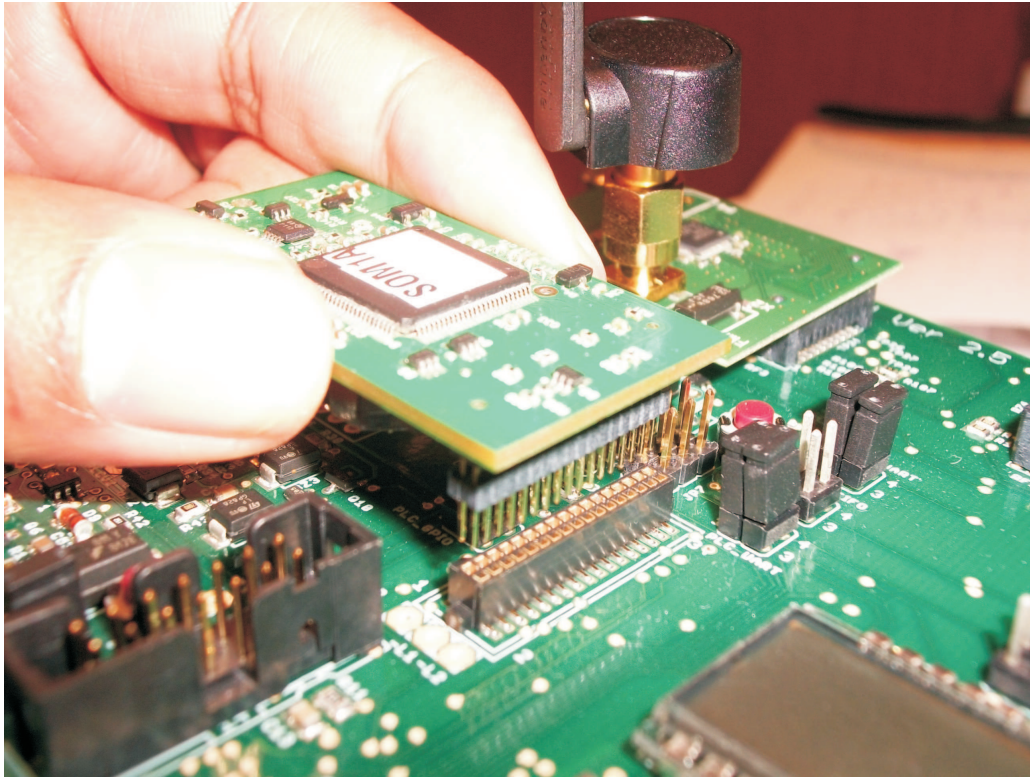
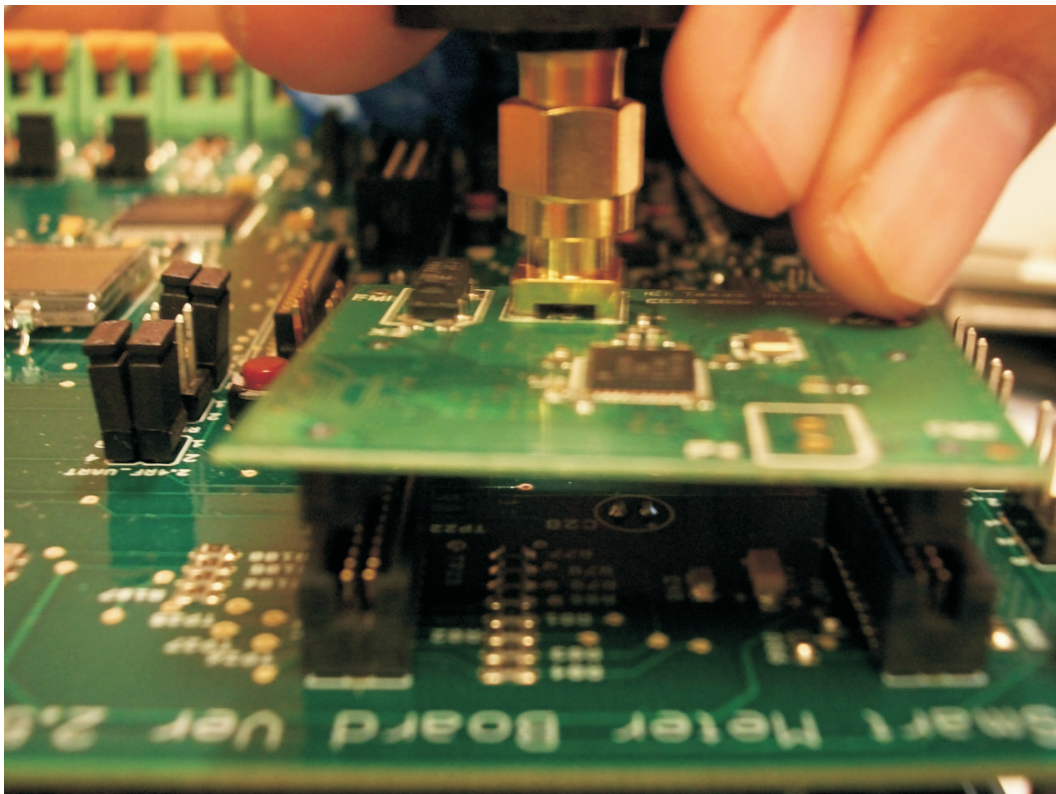

Figure 3. PLC Module Orientation and insertion
Figure 4. CC2530 RF Module Orientation and Insertion
- (a) Check that all connections of the daughter cards fit well in their respective sockets. If the daughter cards are removed, ensure correct orientation when re-inserting. Failure to have the right orientation will damage the daughter cards. Figure 3 and Figure 4 show the orientation of the PLC and RF modules, respectively.